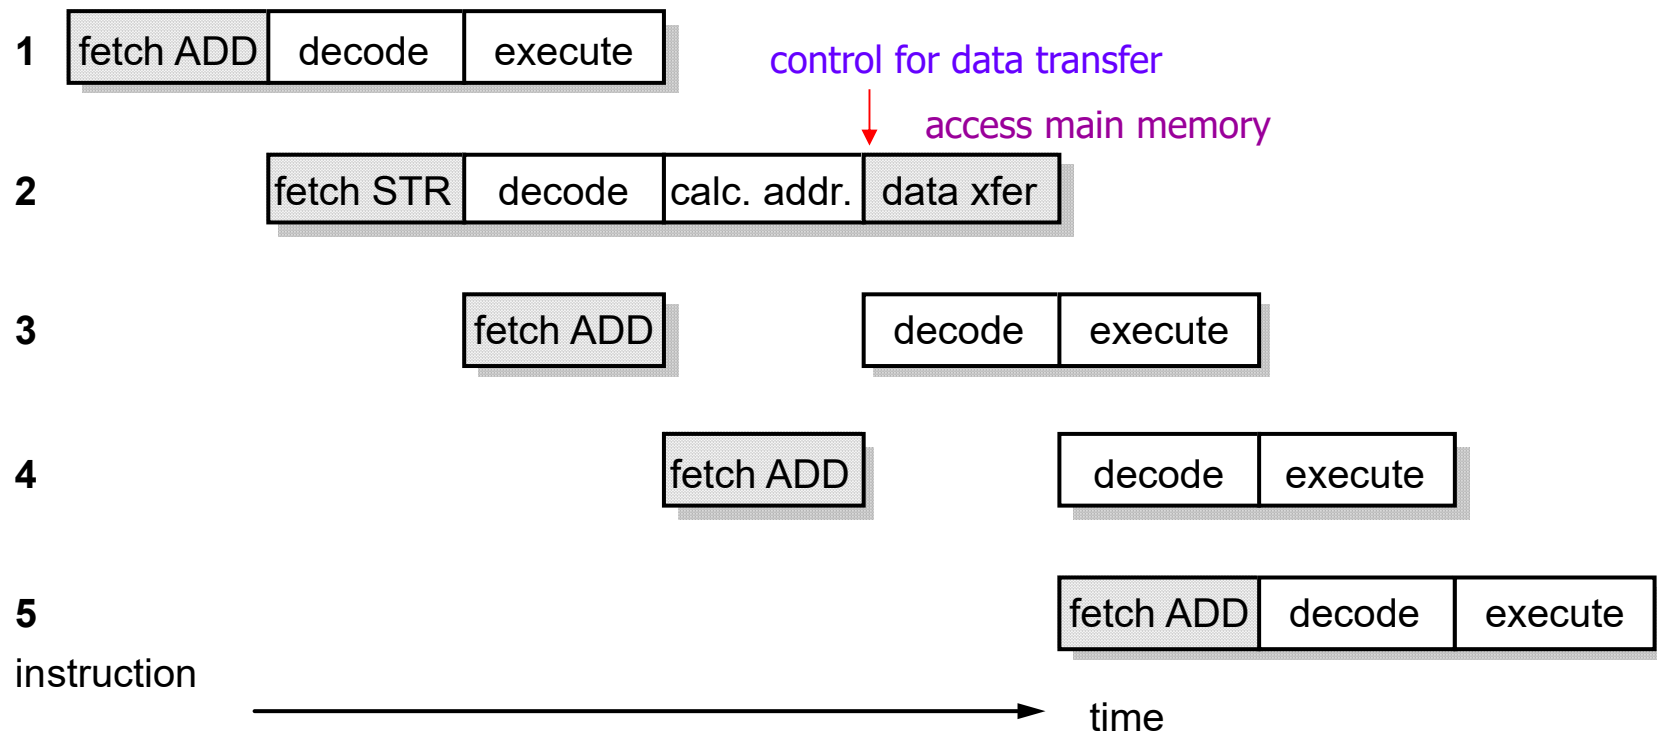

Fig. 4.3 ARM multi-cycle instruction pipeline operation
- ◆ The address is sent to the **address register**, and in a **second cycle** the data transfer takes place (Fig. 4.3)